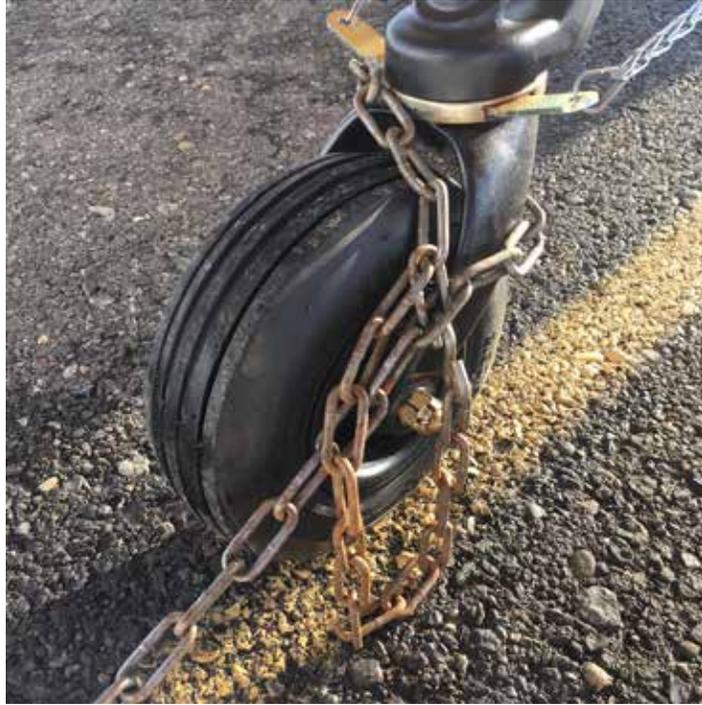

Figure 2 – Tailwheel Tie Down
- (e) There is a tie-down ring underneath each wing next to the forward lift strut (refer to Figure 1). The tail should be tied down by wrapping straps/rope/chains at least once around the tail wheel head (refer to Figure 2). In severe weather, use multiple lines. During gusty or high wind conditions, lines may require periodic tightening to prevent excessive movement of airplane. Use a safety knot (such as a bowline knot) to ensure security.